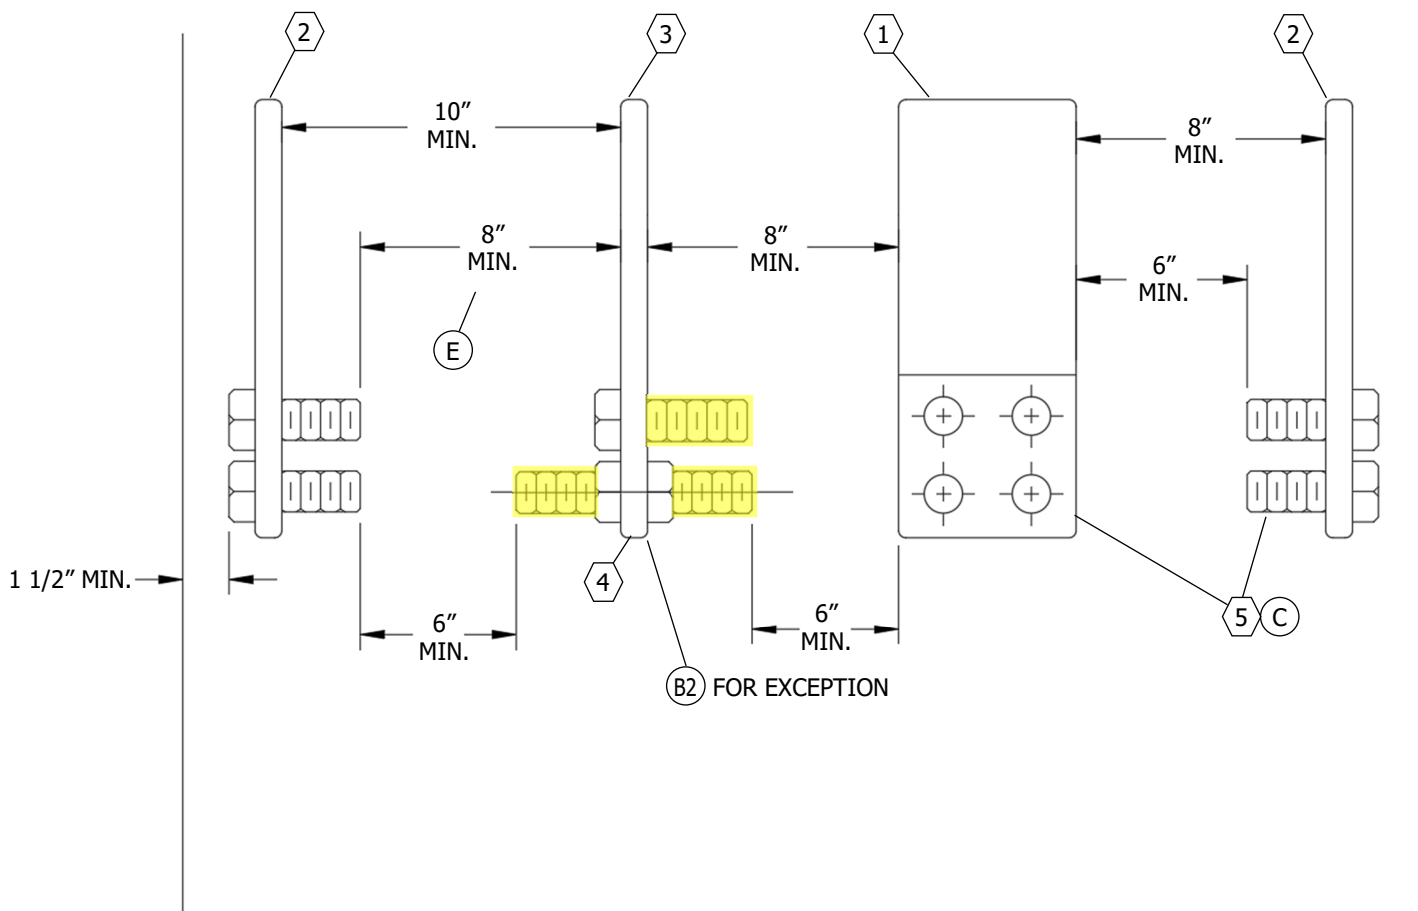

FIGURE 3
- E EACH TERMINATING FACILITY SHALL HAVE AN UNOBSTRUCTED WORKING SPACE, ACCESSIBLE FROM FRONT OF THE UGPS AS VIEWED FROM ACCESS COMPARTMENT OPENING, IN FRONT OF ENTIRE MOUNTING SURFACE AS SHOWN IN FIGURES 3 AND 4. NO MORE THAN ONE TERMINATION FACILITY MAY BE MOUNTED ALONG A SIDE WALL. WHEN VIEWED FROM FRONT OF THE PULL CAN OR UGPS, NO OTHER TERMINATION OR CABLES IN PLACE SHALL IMPAIR THE 8-INCH MINIMUM WORKING CLEARANCE. UNINSULATED BUSSES OF DIFFERENT POTENTIALS SHALL NOT BE PERMITTED BELOW OR BEHIND ANY TERMINATING POSITION AS VIEWED FROM FRONT OF THE UGPS. IF CROSS-BUSSING IS INSTALLED BELOW OR BEHIND A TERMINATING POSITION, CROSS-BUSSING SHALL BE FULLY INSULATED OR BARRIERED.